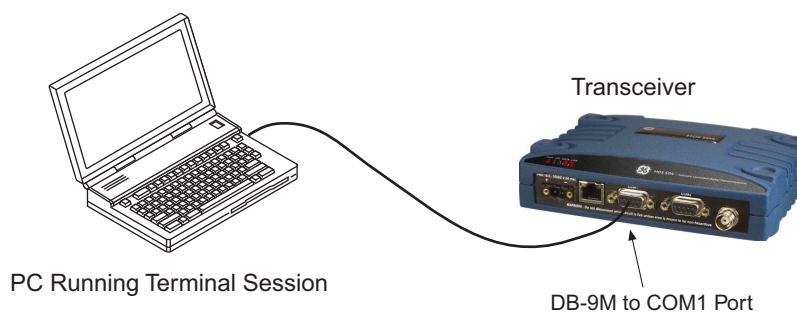

Figure 17. PC Connection to Transceiver
1. Connect a PC to the radio's COM1 serial port as shown in Figure 17. (Maximum recommended cable length: 50 ft./15 m)